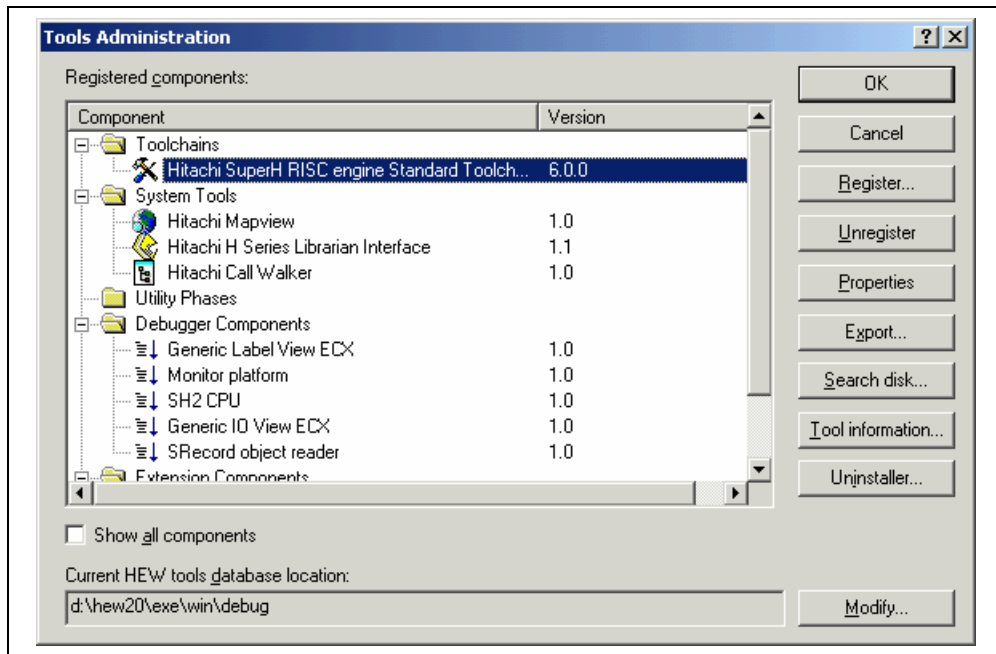
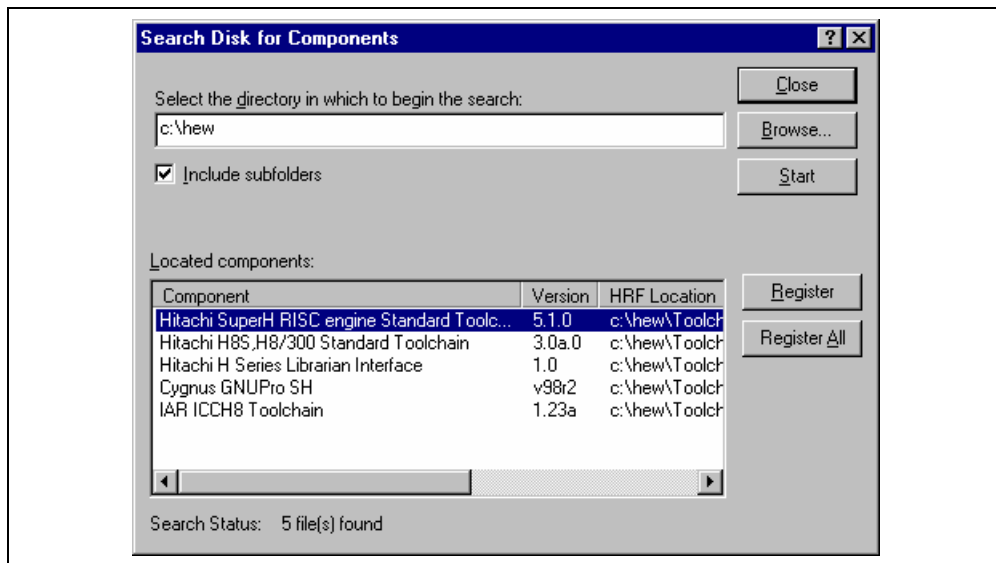

Figure 5.1: Tools Administration Dialog (Example)
Figure 5.3: Search Disk for Components Dialog
You control the components, which can be used by the High-performance Embedded Workshop via the “Tools Administration” dialog (figure 5.1), which is invoked via [Tools->Administration...]. Modification of the “Tools Administration” dialog box is only possible when no workspace is open, while only reference is possible when a workspace is open.
In order to use a component with HEW it must first be registered. The “Tools Administration” dialog (figure 5.1) shows all currently registered components. To access it, ensure no workspaces are open and then select [**Tools ->Administration...**]. If you attempt to access tools administration when there is a workspace open the tools administration dialog is opened but cannot be modified. When HEW is installed by default any new tools are automatically registered.
1. Click the “Search Disk...” button on the “Tools Administration” dialog (figure 5.1). The “Search Disk for Components” dialog will be displayed (figure 5.3).